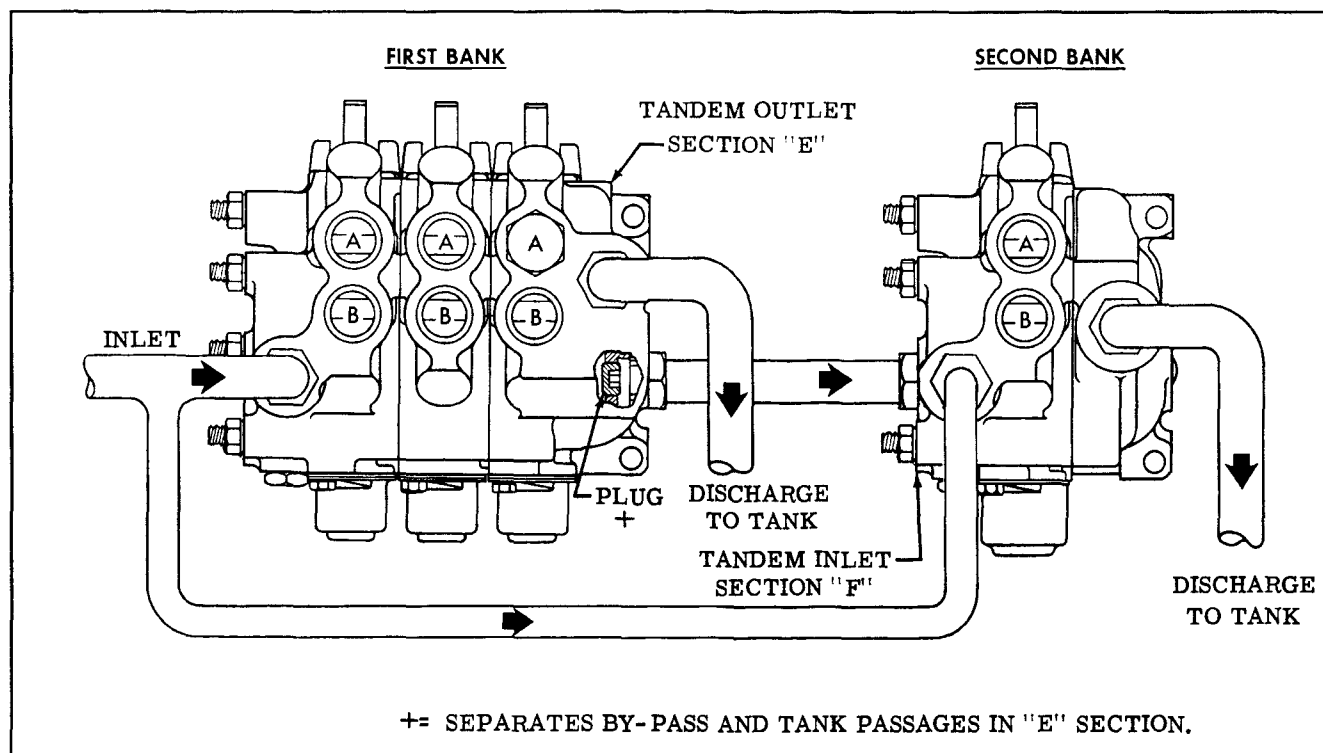

Figure 8
7. Tandem Operation - Tandem operation permits operation of two banks of valves from the same pumping source. An internal plug in the outlet section of the first bank (see Figure 8) separates the by-pass passage from the tank passage. Cylinder exhaust oil is returned to tank via the alternate discharge port, and by-pass oil is directed out the primary discharge port to the by-pass port of the bank.
In Figure 8, either bank can be operated separately or both simultaneously. This is possible because of the tandem by-pass connection from the inlet connection of the first bank to the F inlet connection of the second bank. If neither bank is operating, part of the fluid flows through both by-pass passages directly to tank. The balance is diverted through the tank passage of the first section as shown in Figure 2.
1. Piping arrangement for tandem series operation is shown in Figure 8.
2. The outlet section of the first bank must be an "E" section which is equipped with a plug (see Figure 8) to block the primary discharge port from tank. The discharge to tank port must be connected to tank.